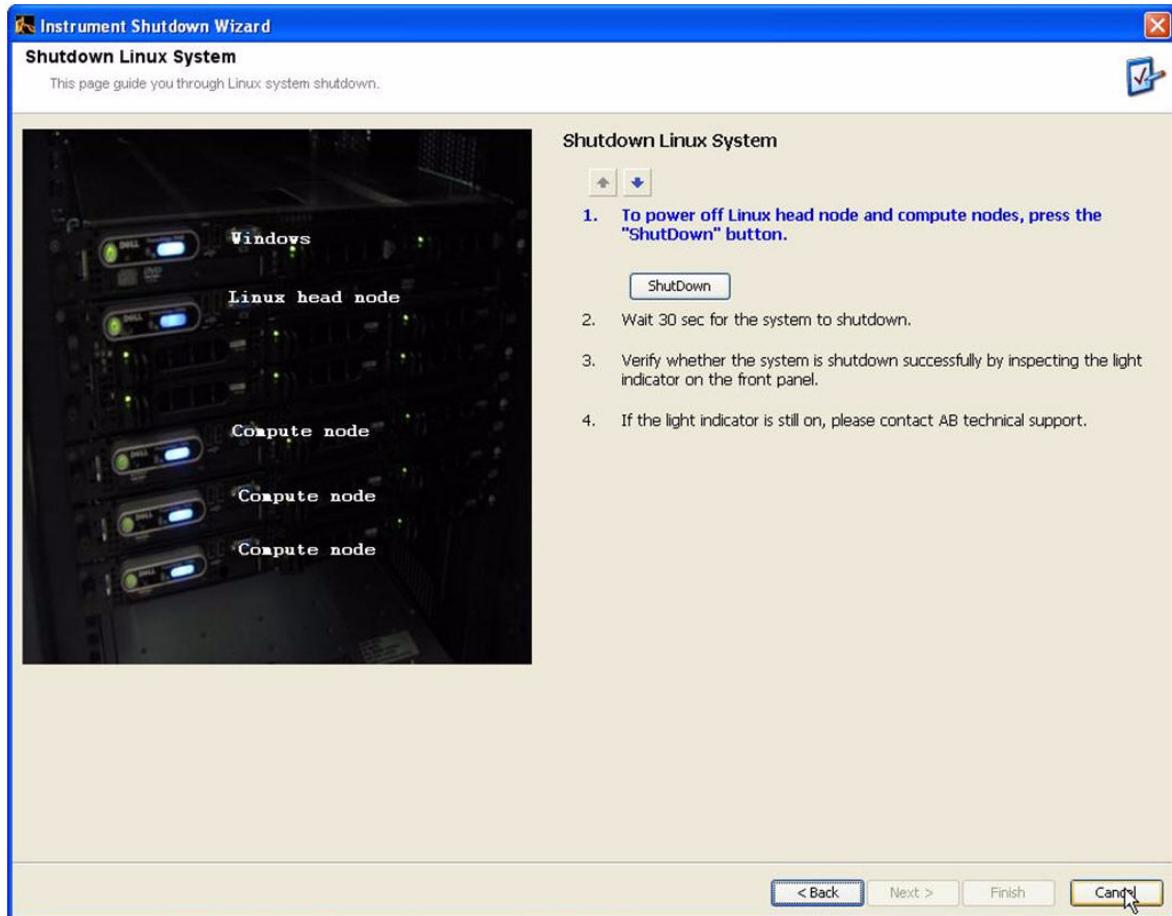

Figure 73 Click Cancel if performing regular maintenance or ShutDown to power down the instrument.
- **Analyze in continuous use:** If the SOLiD™ 3 Plus Analyzer is *in continuous use* and you are performing this flush every three months as required for preventive maintenance, click **Cancel** (Figure 73 on page 98). Do not shut down the power to the Linux head node and compute nodes.
- **SOLiD™ 3 Plus Analyzer idle for more than two weeks:** If the SOLiD™ 3 Plus Analyzer *will not be used for more than two weeks*, click **ShutDown** (Figure 73 on page 98). Close down the SOLiD™ Instrument Control Software and power down the instrument.